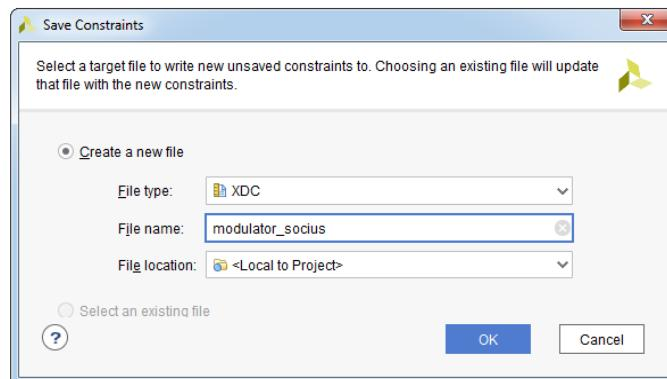

Figure 10.5: Save Constraints dialog box
9. In the **Save Constraints** dialog box, type the name of the constraints file in the **File name** field. In our case, the name will be **modulator_socius**, see Figure 10.5.